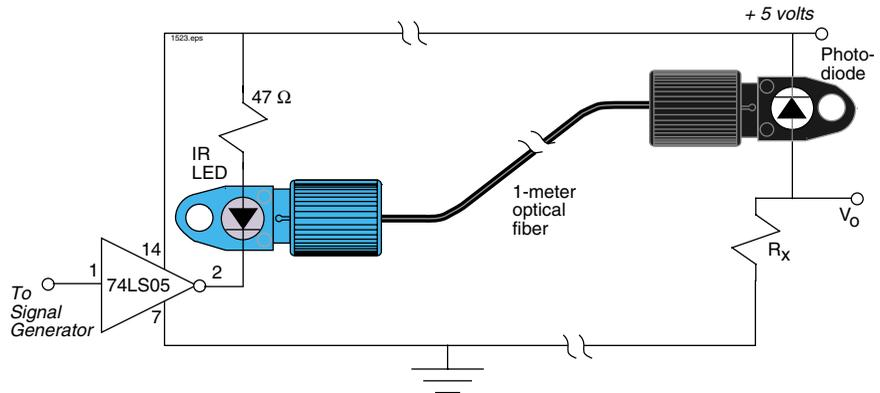
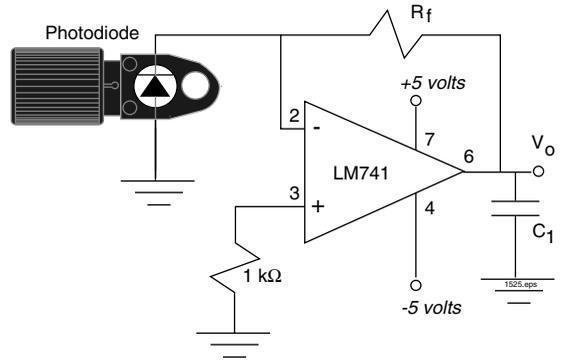

Figure 9.2 Photodiode terminated with a resistor.
Figure 9.4 Non-inverting fiber optic receiver using an operational amplifier.
The simplest transimpedance device is just a resistor. Its output is measured in volts per ampere. A photodiode and resistor termination is shown in **Figure 9.2**. The transfer function of this receiver circuit is:
1. Assemble the circuit shown in **Figure 9.2** on the solderless breadboard. Start with the resistor R_x at a value of 100 k Ω .
Table 9.1 Measured data for various termination resistors, R_x , in the circuit shown in Figure 9.2.
Fortunately there are much better fiber optic receivers than the photodiode and single resistor. One example, an operational amplifier design, is shown in **Figure 9.4**. Its main advantage over the previous circuit is that the operational amplifier buffers the load impedance from the transimpedance gain resistor, R_x . The receiver gain is still determined by the feedback resistor, and the 3 dB frequency by the circuit capacitances at the operational amplifier inverting terminal.
1. Replace the simple resistor located on the breadboard with the circuit shown in **Figure 9.4**. (Ignore C_1 for now.)
5. Place one end of the $.001 \mu\text{f}$ capacitor (C_1) at the output of the operational amplifier and the other end to ground as shown in the dashed outline in **Figure 9.4**.
Table 9.2 Measured data for various termination resistors, R_f , in the circuit shown in **Figure 9.4**.
1. Replace the photodiode in the device housing with the phototransistor. Replace the 47 Ω resistor in **Figure 9.2** with a 100 Ω resistor.
What happens to the rise and fall times at the receiver as the resistor value is reduced in **Figure 9.2**? What happens to the peak-to-peak voltage?
What happens to the rise and fall times across the termination resistor (R_x) when capacitance is added in the circuit shown in **Figure 9.2**?
What are the advantages and disadvantages of the receiver circuit shown in **Figure 9.4** compared to the circuit shown in **Figure 9.2**?
How does the addition of the load capacitance affect the rise and fall times in the circuit shown in **Figure 9.4** as compared to **Figure 9.2**? Why?
Calculate the bandwidth of the receiver shown in **Figure 9.4** with the 10 k gain resistor installed using the equation: